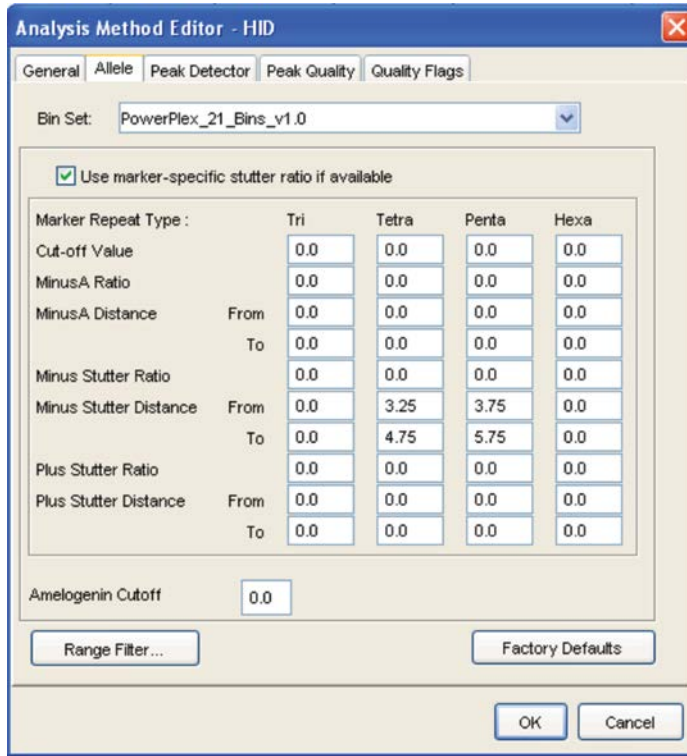

Figure 19. The GeneMapper® ID Allele tab.
6. Select the Allele tab (Figure 19).
9. Enter the values shown in Figure 19 for proper filtering of stutter peaks when using the PowerPlex® 21 System. For an explanation of the proper usage and effects of these settings, refer to the Applied Biosystems user bulletin titled “*Installation Procedures and New Features for GeneMapper ID Software 3.2*”.